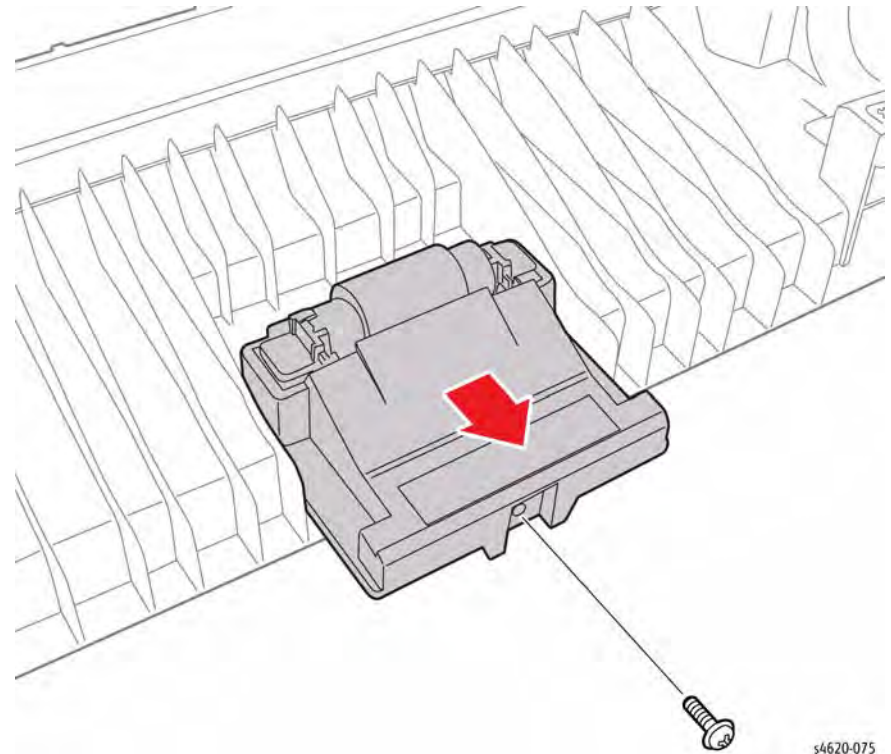

Figure 4 Remove the Tray 1 Separator Roller Assembly screw
5. Remove the screw that secures the Separator Roller Assembly to the feeder, Figure 4.